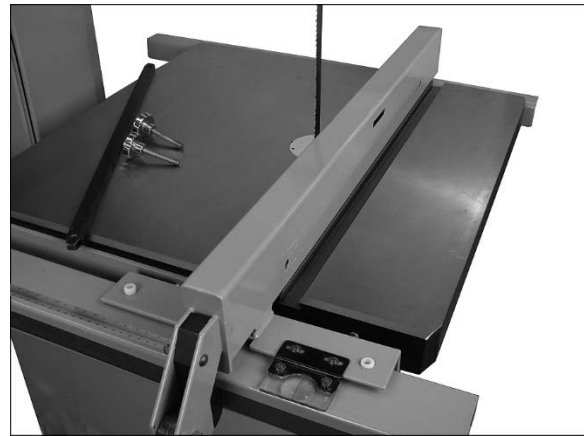

Figure 15: setting fence parallel to blade
Refer to Figures 15 and 16.
1. Remove the aluminum resaw fence and the lock bar from the fence body, and slide fence body to edge of miter slot, as shown in Figure 15. The fence should align with miter slot along the entire length of fence.